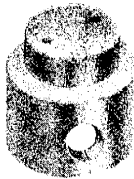

Fig. 8 — Binding Post Cap E
- The E binding post caps, Fig. 8, are for use on 49-type cable terminals.